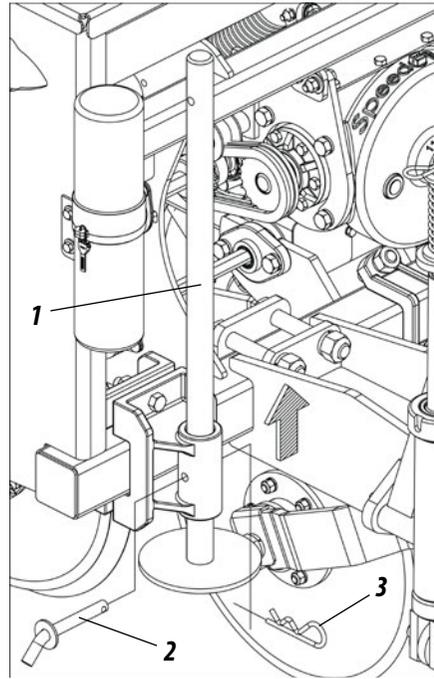

Figures 07
- 01** - Level the coupling header (1) in relation to the tractor coupling through the regulator (2). Then, slowly close the seeder to the tractor in reverse gear, being aware to applying the brakes.
- 02** - Couple the planter to the tractor by fixing it with the hitch pin (3) and lock (4).
- 03** - Connect the hoses (5) in the quick tractor hitch, as shown in **figure 07**.